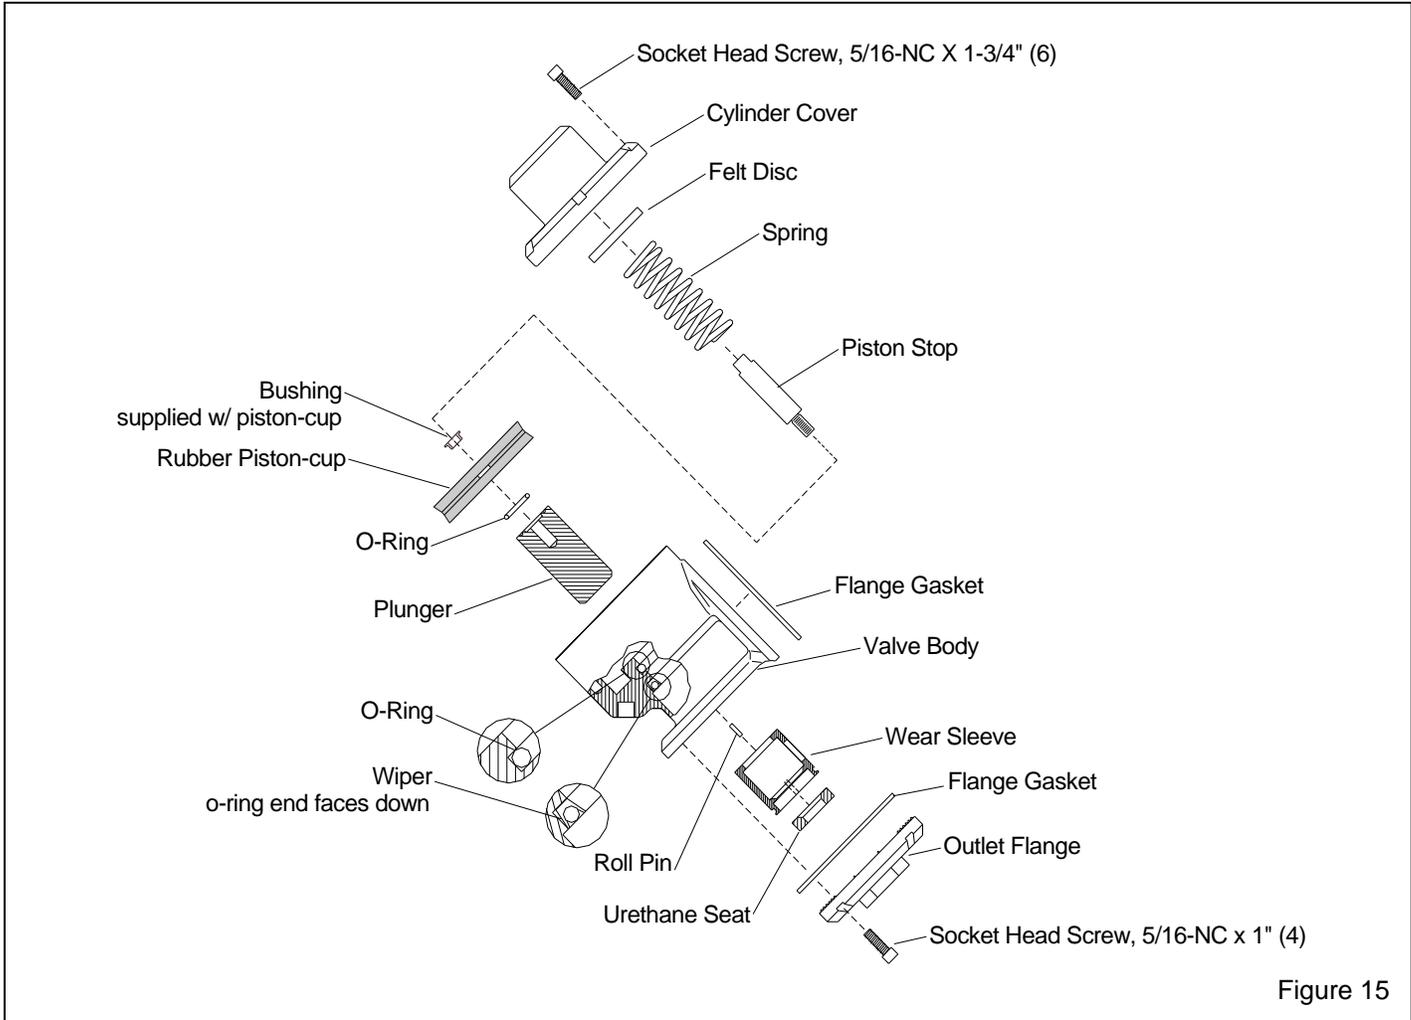

Figure 15
6.7.2.5 Refer to Figure 15, and unscrew the six socket head screws, and remove the cylinder cover and spring. Spring compression is removed when the cover is approximately 9/16" from the body.
6.7.2.16 Replace the wiper and o-ring in the actuator body, the o-ring side of the wiper must face toward the bottom of the body as shown in Figure 15.